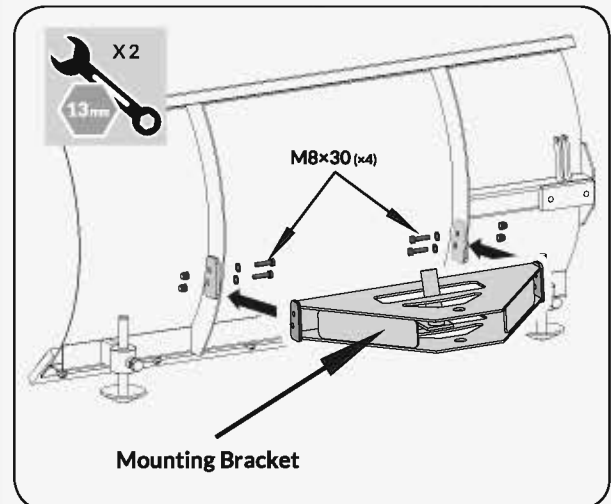

Figure 8a
1. Mount the mounting bracket to the blade using M8x30 hex bolts, washers and nuts. (See **Figure 8a**)